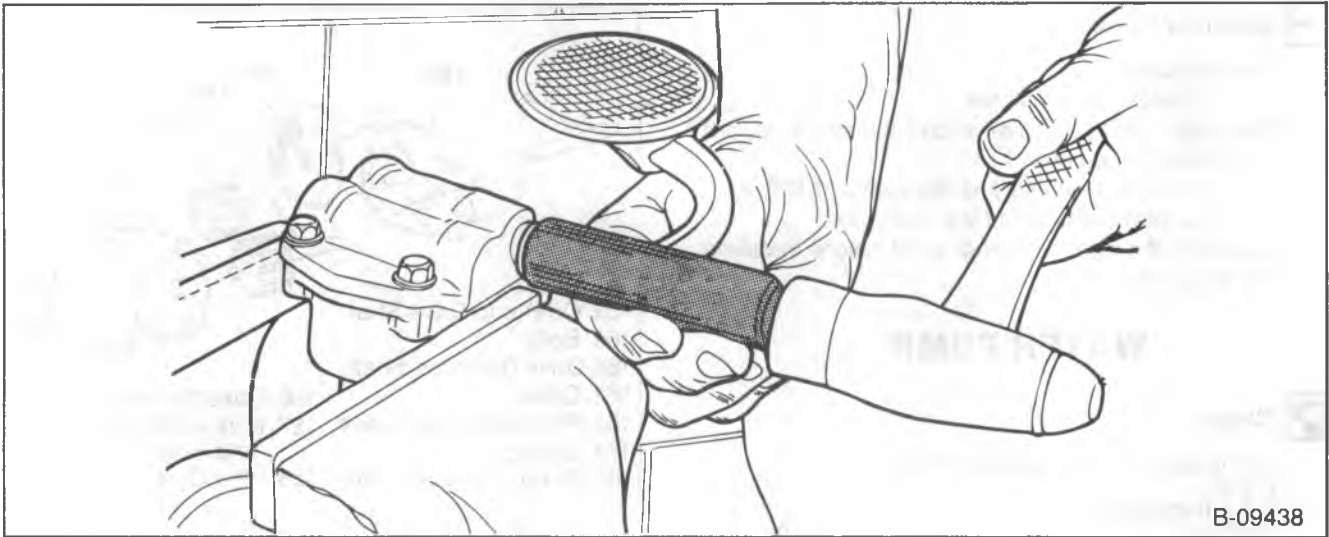

Figure 22—Installing the Oil Pump Screen
- Pick-up screen and pipe (if removed) (figure 22).
- Oil pump drive shaft (103) and connector (104).